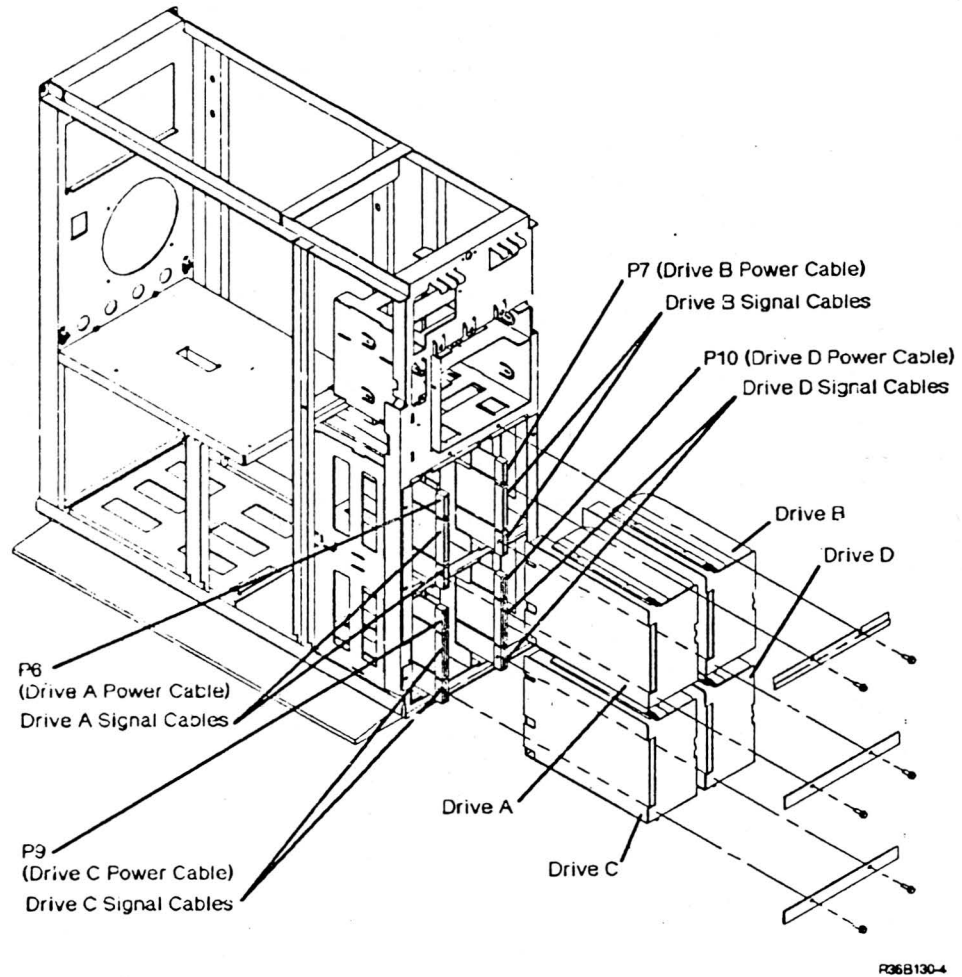

Figure 2
- 10.4.4 Slide the disk drive(s) into the machine frame, leaving room at rear of drive to install cables (Figure 2).